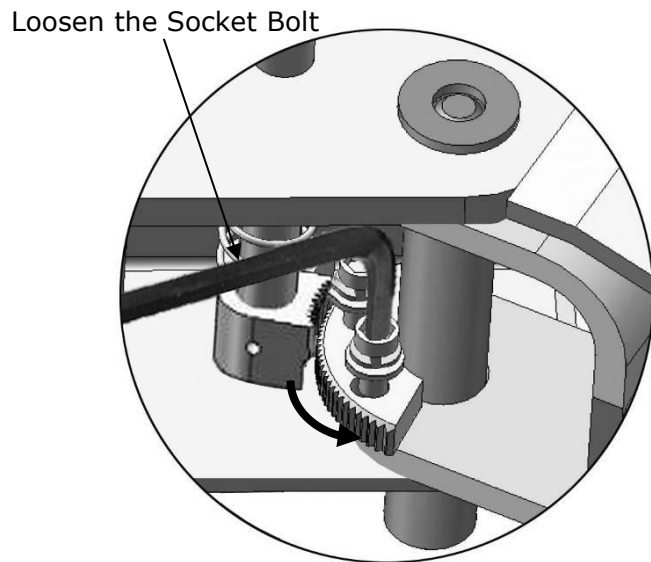

Fig. 37
2. Lowering the carriages down to the lowest position, then use the 8# socket head wrench to loosen the socket bolt (**See Fig.37**).